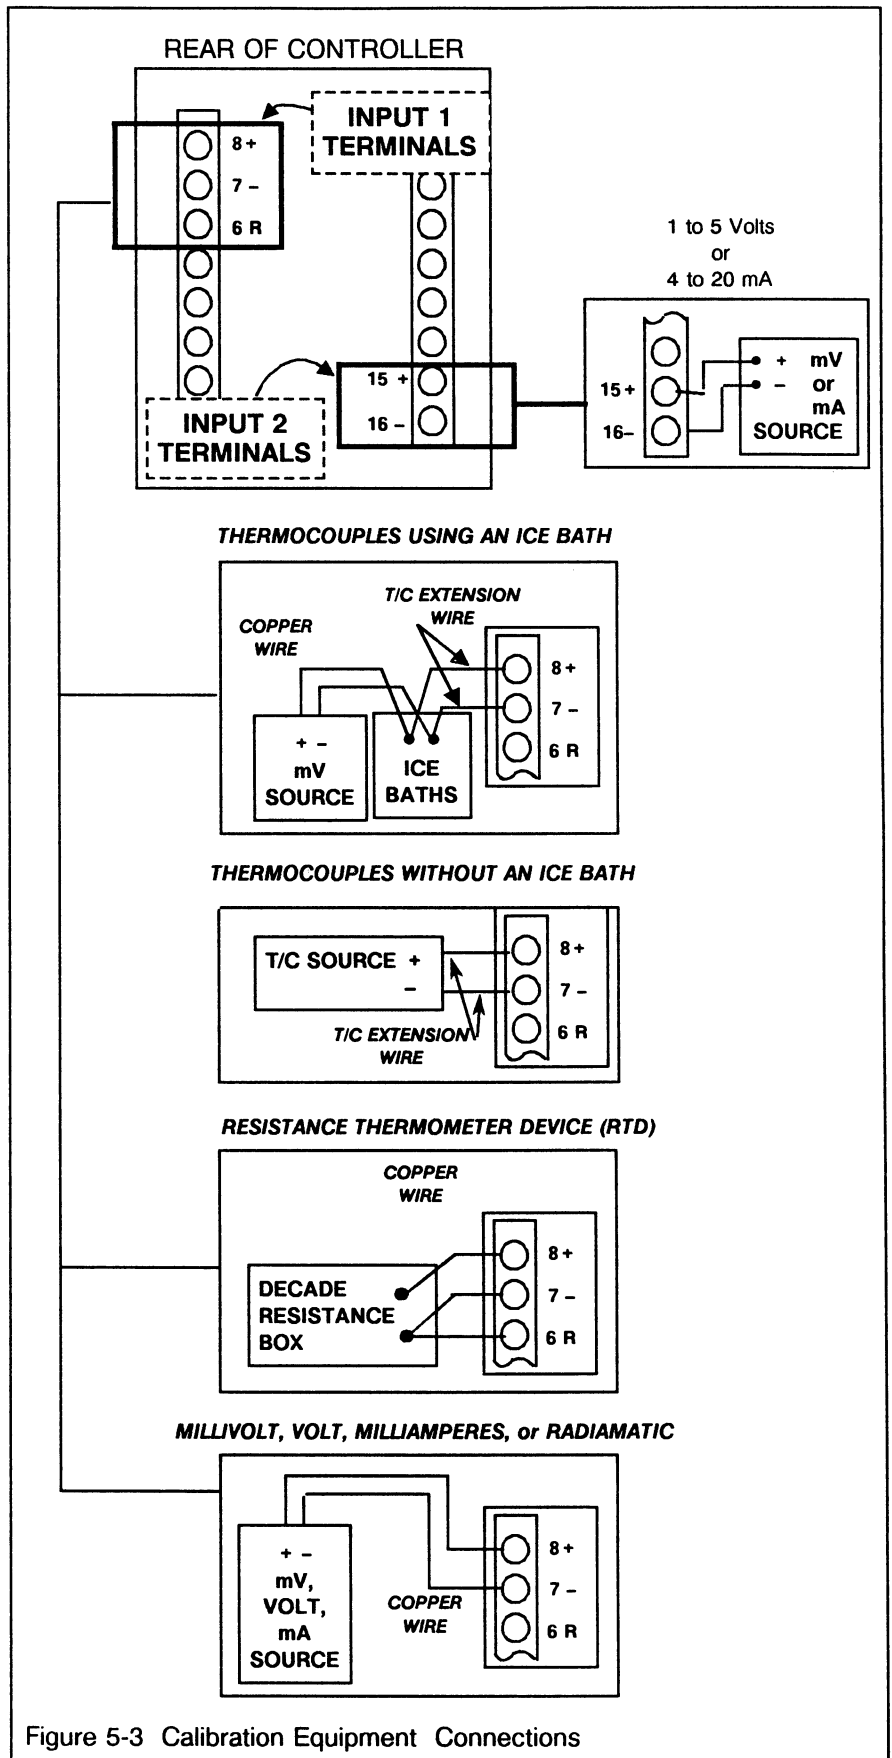

Figure 5-3 Calibration Equipment Connections
Set-Up (SEE FIGURE 5-3)
- Connect the copper leads from the calibrator to the input 1 terminals as shown in Figure 5-3.